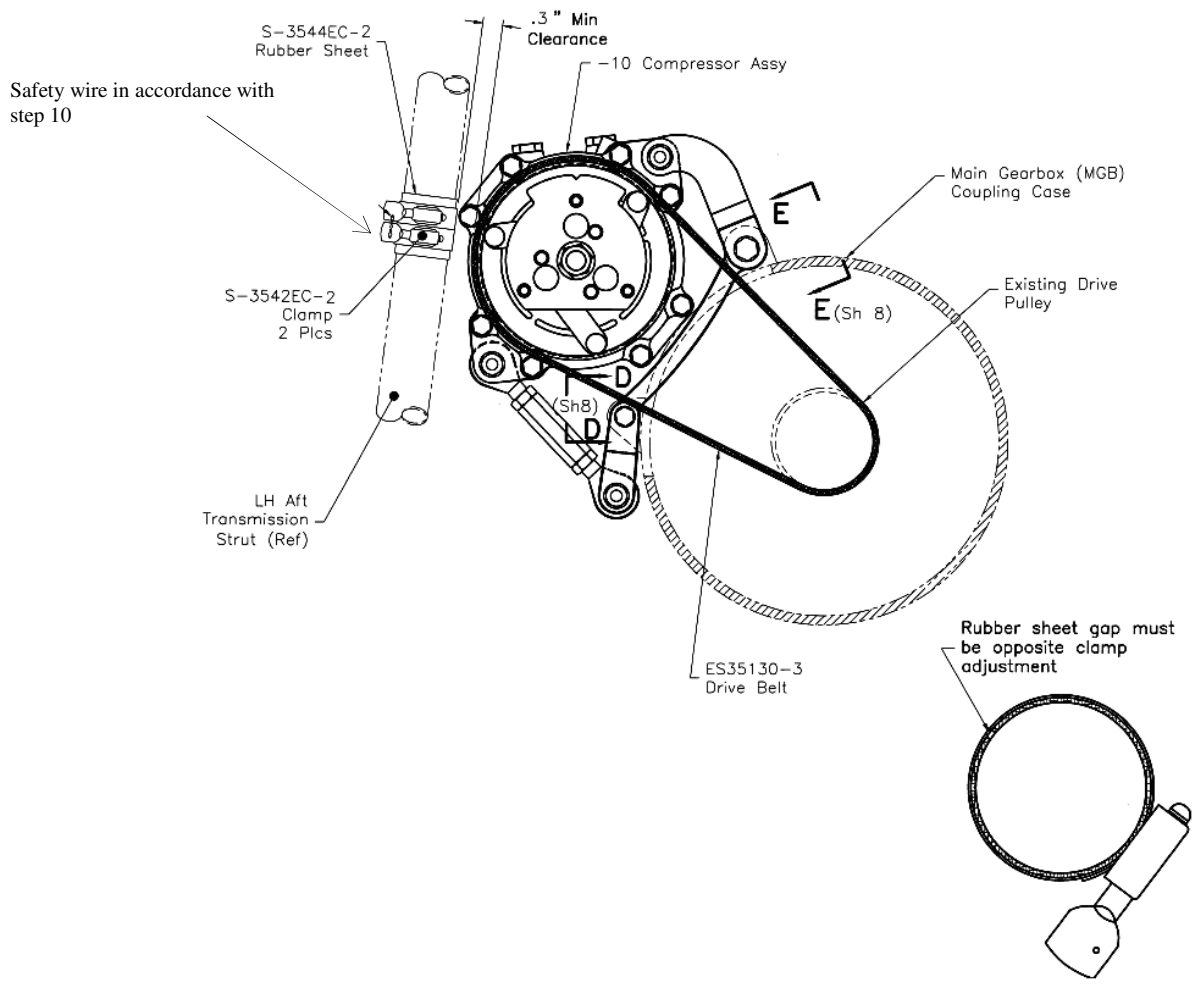

Figure 1 Rubber Sheet and Clamp installation
6. Install the S-3018EC-2 link assembly per figure 1.
10. Using the mark from step 5 center the S-3542EC-2 rubber sheet (trim rubber if required to ensure no overlap.) and install using QTY 2 S-3542EC-2 clamps. (Ref Fig 1) Safety wire the S-3542EC-2 clamps using MS20995 safety wire in accordance with NASM33540.